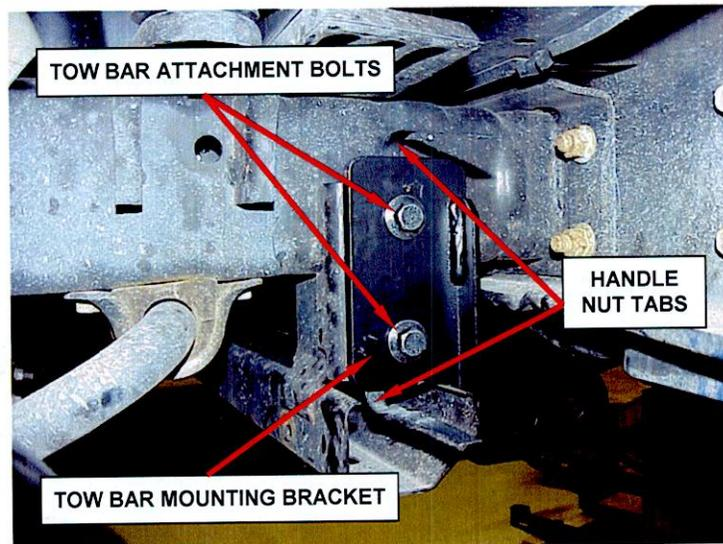

Figure 7 – Tow Bar Mounting Brackets To Frame
- c. Loosely assemble the tow bar mounting brackets to the right and left side of the frame using the handle nuts and attachment bolts with spacers (Figure 7).
holes. The spacers are properly centered when there is no gap between the tow bar mounting bracket and the frame or between the head of the bolt and the face of the tow bar mounting bracket (Figure 7).